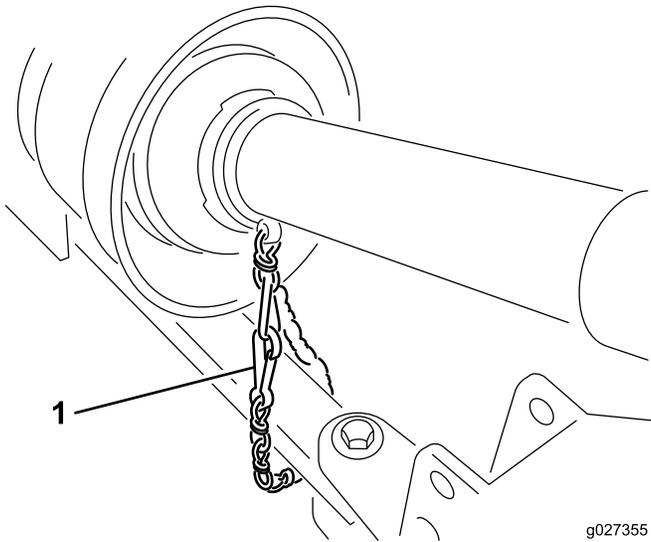

Figure 8
- Connect the shield safety chain to the tractor (Figure 8).